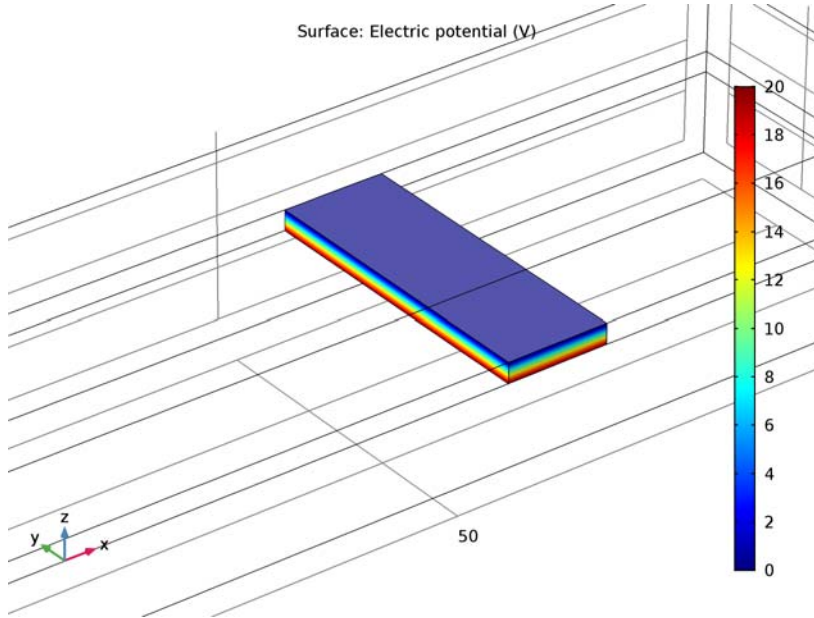

Figure 2: Applied voltage through the piezoelectric material
- *Electrostatics*: The system applies a 20 V potential difference between the top and bottom surfaces of the piezoceramic domain (Figure 2). This gives rise to an electric field perpendicular to the poling direction ( $x$  direction) and thus induces a transverse shear strain.